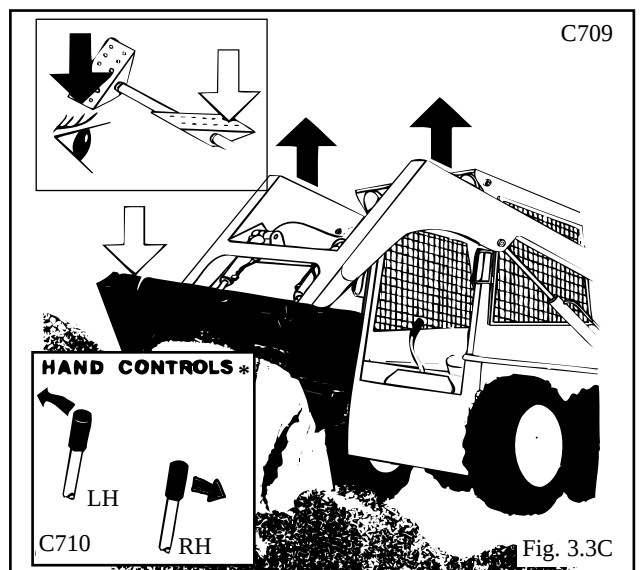

Fig. 3.3C
4. Raising the front end of the tracks off the ground will reduce traction and cause increased track wear (Fig. 3.3C).
To dump the bucket (Fig. 3.3C) push down on the heel of the lift arm pedal to raise the lift arms. Push down on the toe of the bucket pedal small amounts as the lift arms are raising to stop material from falling off the back of the bucket. When the bucket is at the correct height for dumping, push on the toe of the bucket pedal to empty the bucket.
For hand control units, move the L.H. control lever away from you (Fig. 3.3C) to raise the lift arms. Move the R.H. control lever away from you in small amounts as the lift arms are raising to stop material from falling from the back of the bucket. When the bucket is at the correct height for dumping, move the R.H. lever away from you to empty the bucket.